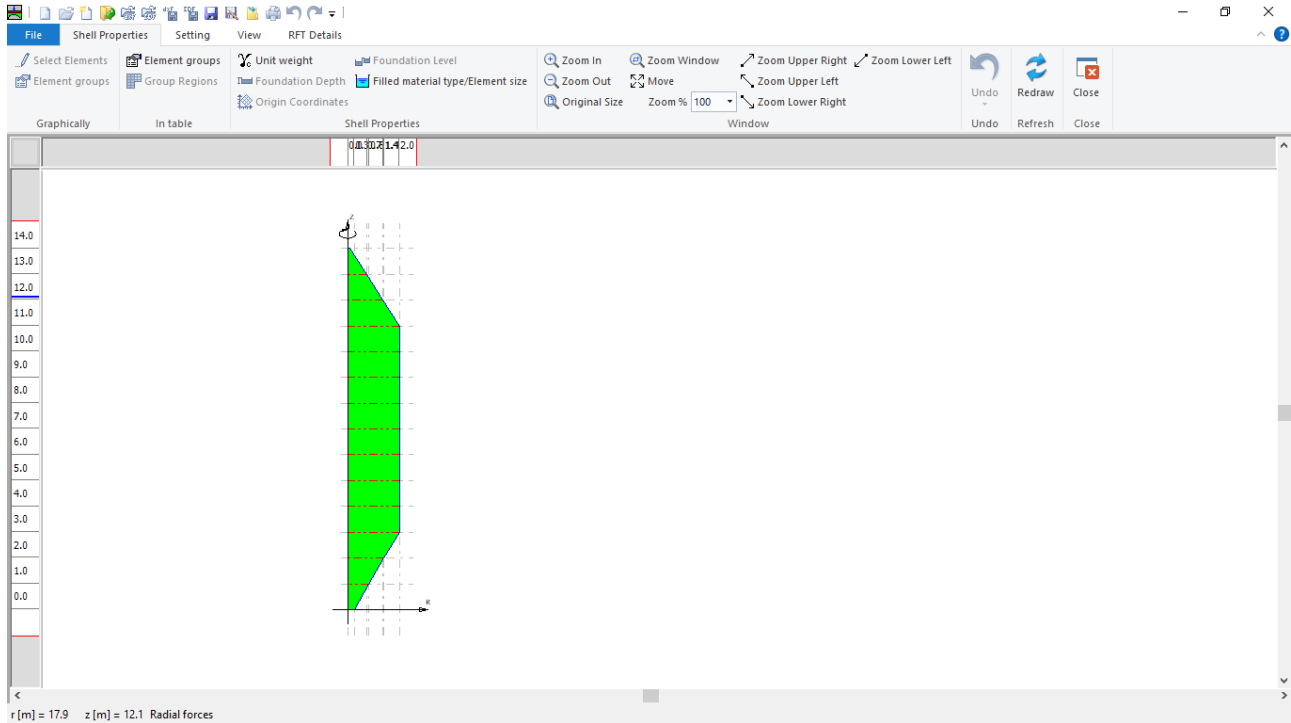
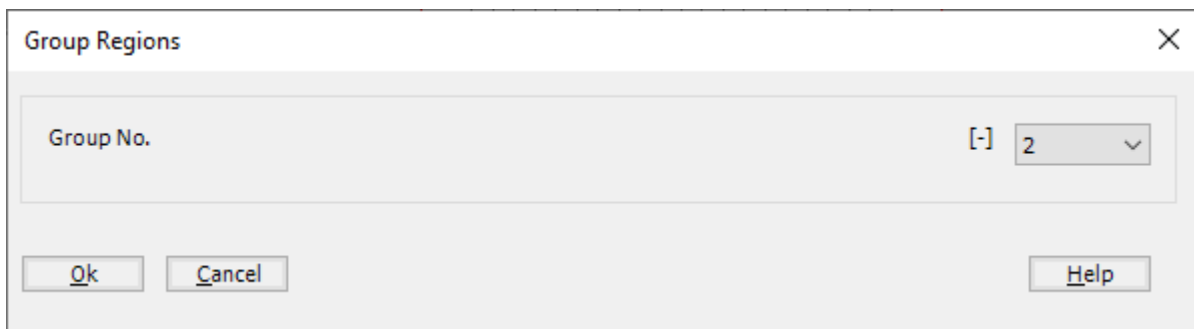
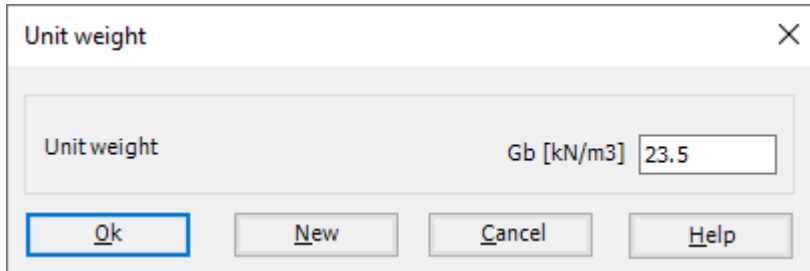

Figure 13.10 "Shell Properties" Window
Figure 13.13 "Group Regions" dialog box
Figure 13.14 "Unit weight" dialog box
To define the silo properties, choose "Shell Properties" command from "Data" Tab. The following window in Figure 13.10 appears with default shell properties. The data of shell properties for the current example, which are required to be defined, are element groups, group regions, unit weight of the silo material, filled material properties and element size.
- Choose "Select Elements" command from "Graphically" menu in the window of Figure 13.10
- Choose "Elements Groups" command from "Graphically" menu in the window of Figure 13.10, "Group Regions" dialog box Figure 13.13 appears
To enter the unit weight of the silo material, choose "Unit weight" command from "Shell Properties" menu in Figure 13.10. The following dialog box in Figure 13.14 with a default unit weight of 25 [kN/m3] appears, type 23.5 in the "Unit weight" edit box, then click "OK" button.
- Choose "Filled material type/Element size" command from "Shell Properties" menu in Figure 13.10.